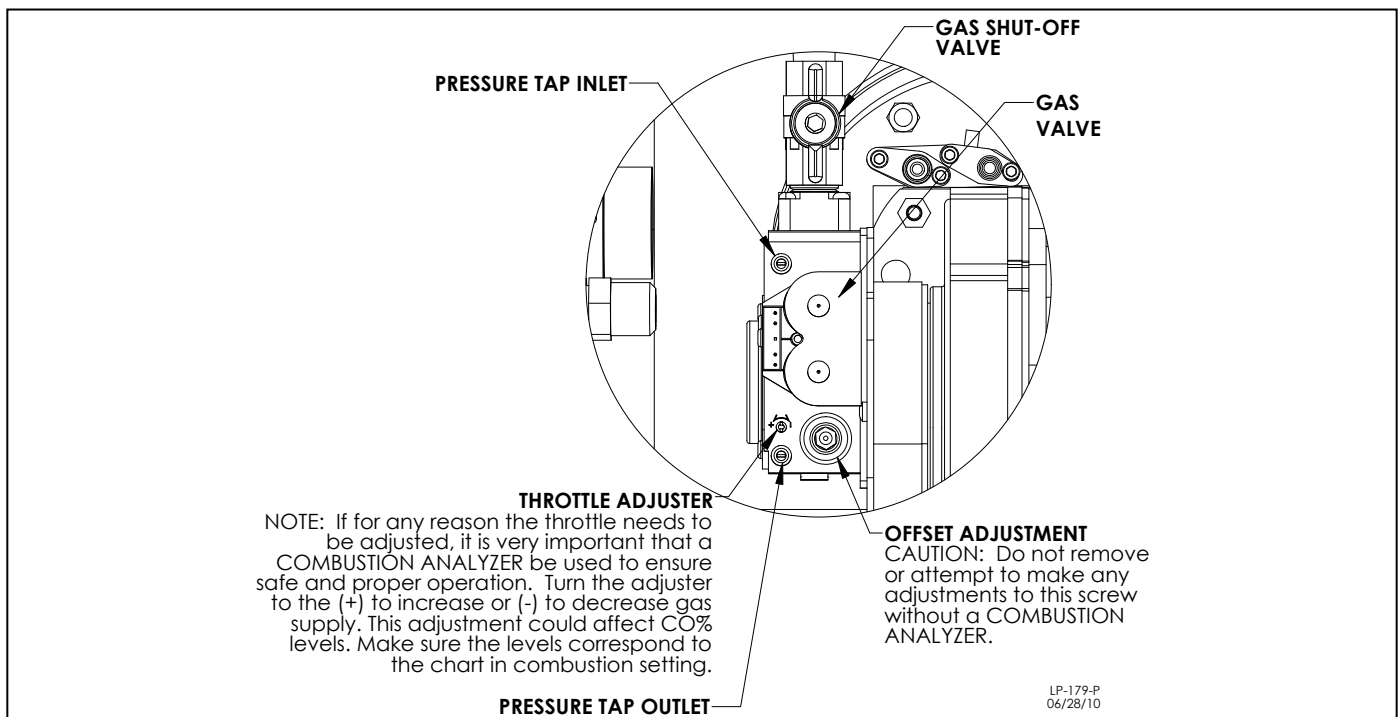

Figure 21 - Gas Valve
- The National Fuel Gas Code (NFPA 54) requires that a sediment trap (drip leg) be installed in the gas line on appliances not so equipped. The drip leg must be accessible, a minimum of 3" in length, and not subject to freezing conditions. See Figure 21.
NOTE: Refer to Figure 21 when checking gas pressure.